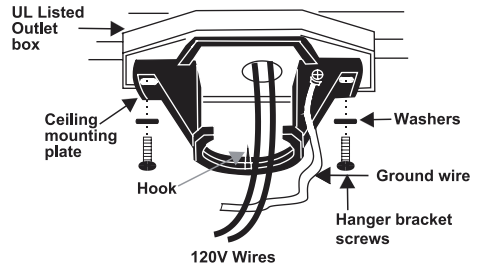

Figure 5
Step 1. Pass the 120-volt supply wires through the center hole in the ceiling hanger bracket as shown in Fig. 5.
Step 2. Secure the hanger bracket to the ceiling outlet box with the screws and washers included with mounting hardware (Fig.5).